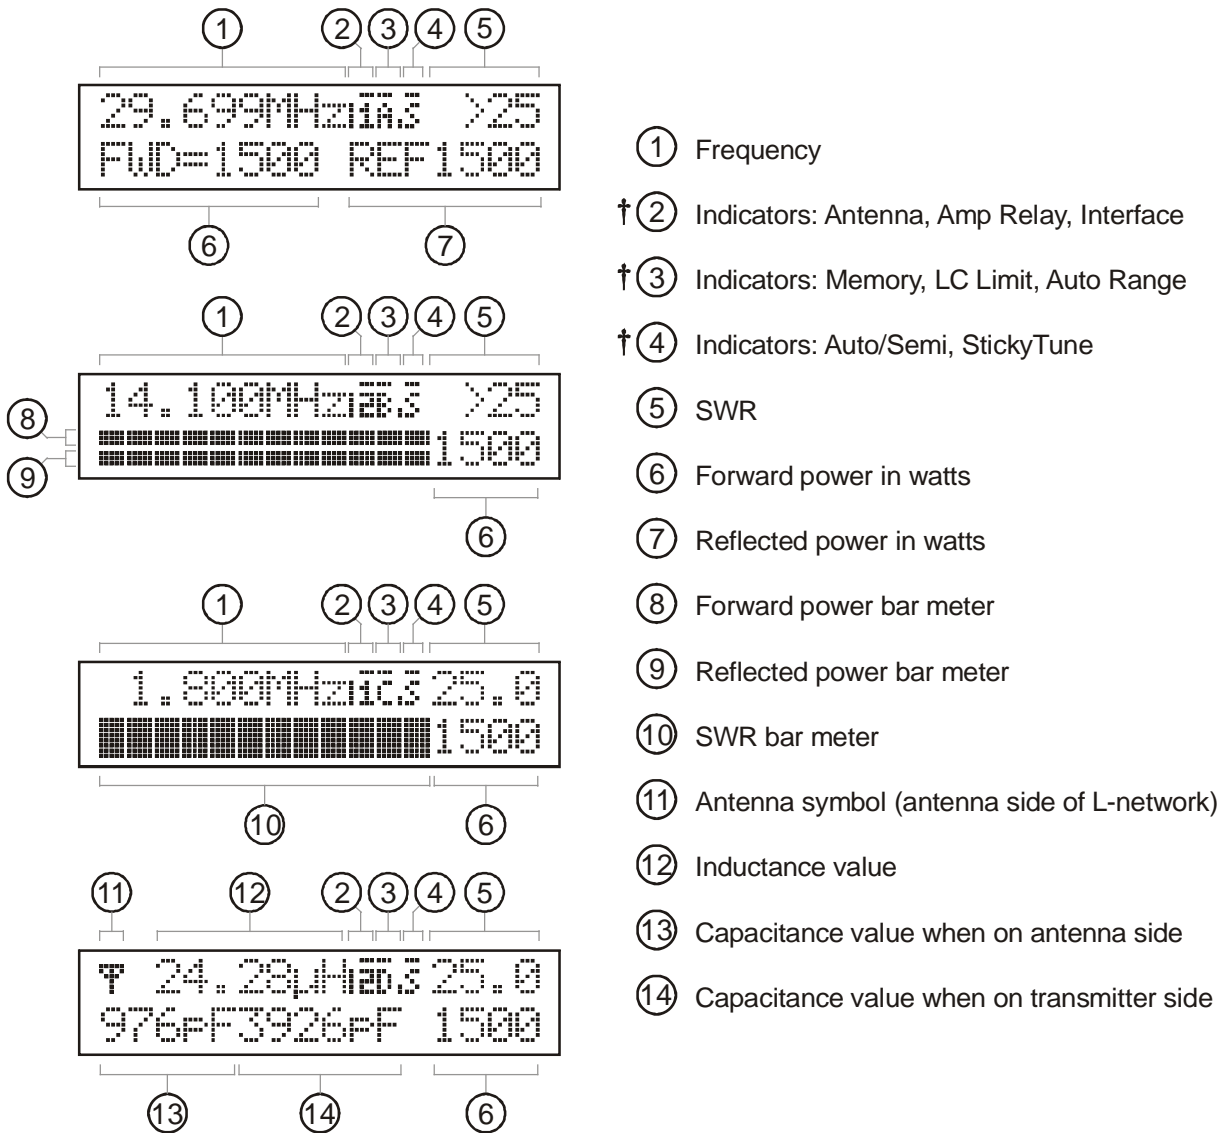
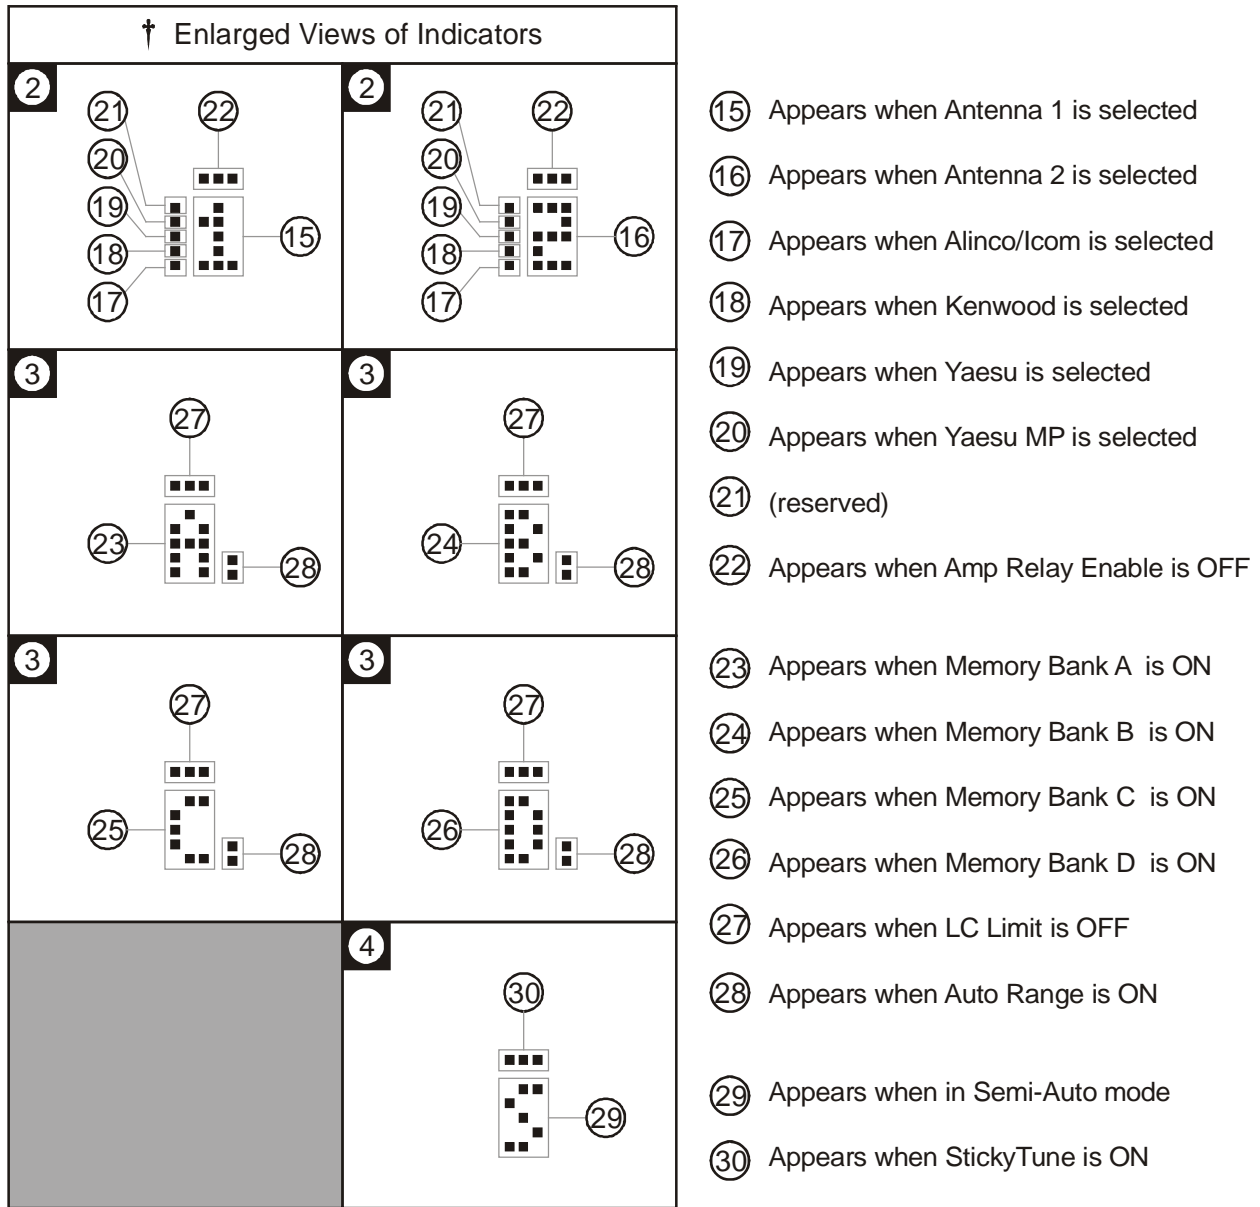

Figure 16. Main Mode Menus Display.
Figure 17. Tuner Indicators.
Pressing [TUNE] and [ANT] simultaneously toggles between automatic and semi-automatic tuning mode. In automatic mode, the tuning routine is automatically started when at least five watts of power is applied and the SWR is a preset amount above the preset target SWR. In semi-automatic mode, the tuning routine starts only when the [TUNE] button is pressed for 0.5 to 2 seconds. The Auto/Semi indicator on the main display indicates the selected mode. Refer to Figures 16 and 17 for the on-screen Auto/Semi indicator.
automatically sets the meter to the high power range. Forward power less than 250 watts and reflected power less than 40 watts automatically set the meter to the low power range. When auto range is enabled, a two-dot vertical segment appears in the lower right corner of the Auto Range indicator on the main LCD screen. Refer to Figures 16 and 17 for the on-screen Auto Range indicator.
The main mode menus show various tuner settings and status. There are four main mode menus arranged in a “wrap-around” structure. When powered on, tuner operation starts with the main menu that was last used. Within each main menu, press the [MODE] button briefly to view the next main menu. Press and hold the [MODE] button for two seconds to enter the setup mode (see below). Various tuner indicators are shown on all four main menus: Antenna 1/2, IntelliTune™, Radio Interface, Memory, LC Limit, Auto Range, Auto/Semi, and StickyTune™. Refer to Figures 16 and 17 for details on the displayed information.
The power meter default condition is auto range. Auto range automatically sets the meter scale according to the input RF power to the tuner. Forward power greater than 300 watts or reflected power greater than 60 watts automatically sets the meter to the high power range. Forward power less than 250 watts and reflected power less than 40 watts automatically set the meter to the low power range. When auto range is on, a two-dot vertical segment appears on the on-screen tuner indicator. Refer to Figures 16 and 17 for the on-screen Auto Range indicator.
Various tuner indicators are shown on the main menus to indicate tuner status. Refer to Figures 16 and 17 for locations of these indicators. The number enclosed within () is the item number of Figure 17.
Note: Pressing [MODE], [L-UP] and [L-DN] simultaneously toggles the Amplifier Bypass Control[™] feature ON and OFF; and disables the StickyTune[™] mode, if enabled. Refer to Figures 16 and 17 for the on-screen Amp Relay Enable indicator. If this feature is turned OFF (not recommended), it will be re-set to ON whenever power is cycled.
Allows you to select the meter scale range. In the 300 watts (low) range, the forward full scale is 300 watts and the reflected full scale is 60 watts. In the 3000 watts (high) range, the forward full scale is 3000 watts and the reflected full scale is 600 watts (multiple the meter reading by 10). Auto range automatically sets the meter scales according to the input RF power to the tuner. Forward power greater than 300 watts or reflected power greater than 60 watts automatically sets the meter to the high power range. Forward power less than 250 watts and reflected power less than 40 watts automatically set the meter to the low power range. Refer to Figures 16 and 17 for the on-screen Meter Range indicators. Default is AUTO Range.
The memory resolution for non-amateur frequency bands between 160 and 10 meters is approximately 0.2 percent of the lower frequency of each band. There are over 2500 memory locations for each memory bank, and each antenna has four memory banks (A-D). Tuner settings are stored in memory separately for Antenna 1 and Antenna 2 (settings for single-wire antenna are stored as Antenna 1). This provides memory for up to eight different antennas. Refer to Figures 16 and 17 for the on-screen Memory indicator. Defaults are memory banks 1A and 2A ON.
The upper limits of inductance (L) and capacitance (C) are factory-limited according to frequency and maximum power rating; i.e., higher frequencies need less inductance and less capacitance when the L-network is properly tuned. Pressing [C-UP] and/or [L-UP] allows capacitance and inductance to be increased only to these limits. When a selected capacitance or inductance is higher than its allowed limit, and the frequency is changed, that selection is automatically reduced to the value of its limit. These limits are used to prevent matching of extreme load impedance outside the tuner's specification, which may result in excess voltage and/or current across the tuner's components. This setting is not stored in non-volatile memory and reverts back to the default when the tuner power is cycled. Refer to Figures 16 and 17 for the on-screen LC Limit indicator. Default is ON.